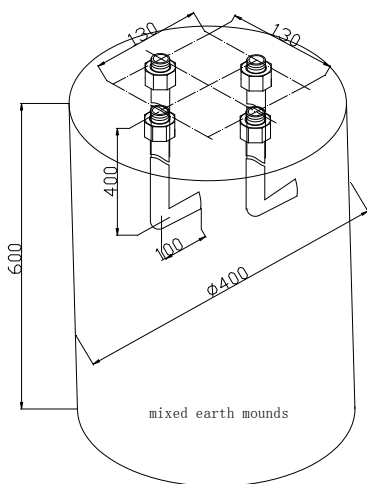

Figure1:manufacture of mixed earth mound
5. The arrangement of the lightening protection earth resistance can refer to the national standard, the European standard, and American standard. You can also refer to the figure1 on the manual to help arrange.